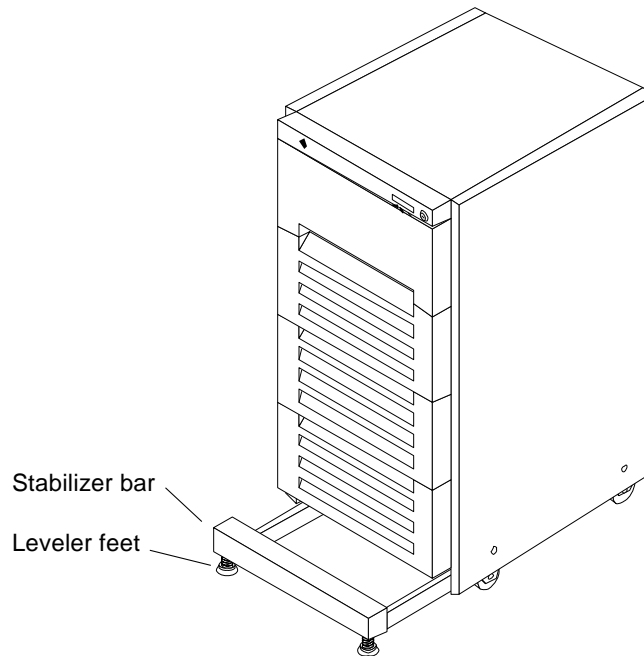

Figure 8-5 Stabilizer Bar
1. Grasp the stabilizer bar under the front edge and pull it out to its fully extended position. See Figure 8-5.